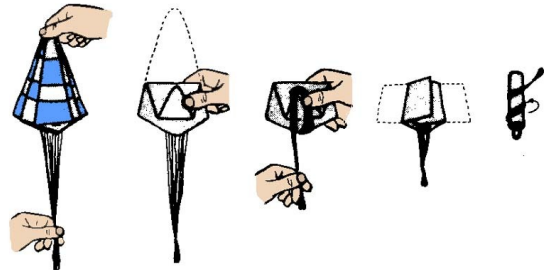

Figure 11
- Step 37** As shown in Fig. 11 above, fold the parachute and loosely wrap the shroud lines around it.